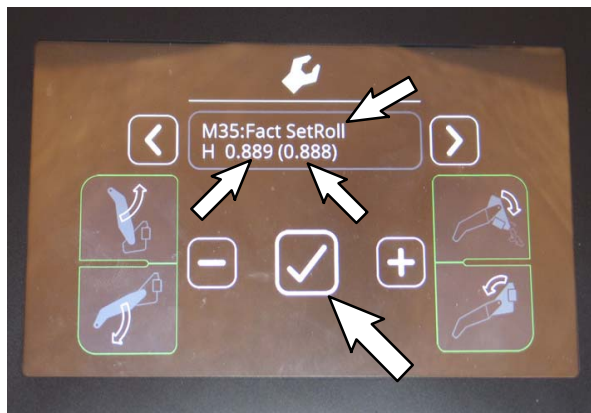

FIG. 32
32. Use the left arrow button to scroll to M:35 Fact SetRoll. Press the Check Mark button once to enter M:35 and again to reset the hopper roll out to the factory setting. (Fig. 32)
33. Verify the value on the left closely matches the value in the parentheses. (Fig. 32)